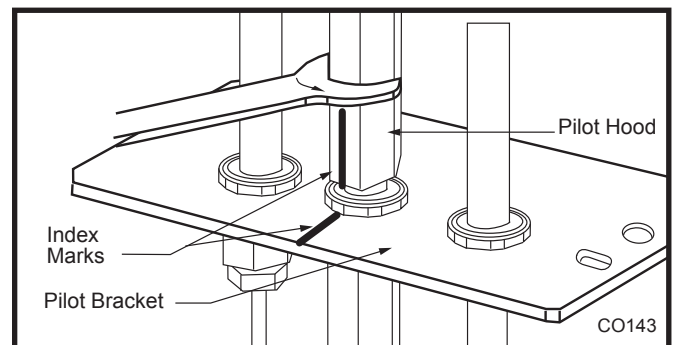

Fig. 70 Remove pilot hood. (Your pilot may have a different appearance.)
- Loosen pilot hood turning counterclockwise using a 7/16” wrench. (Fig. 70) **NOTE:** You may use penetrating oil to prevent pilot hood threads from seizing up.